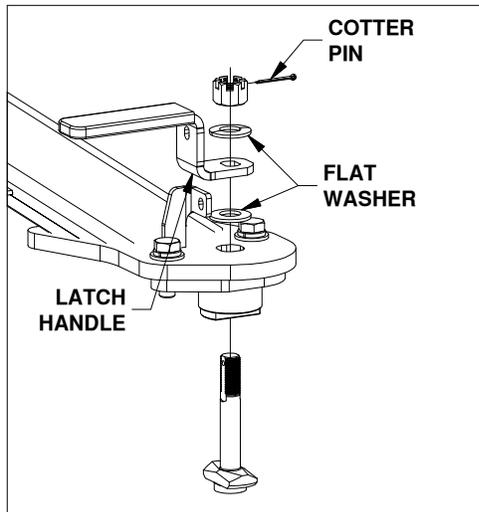

FIGURE C5: List of latch parts.
4. **Adjust the tension in the latch handle**, for parts list and visual guide refer to Figures C5 and C6.